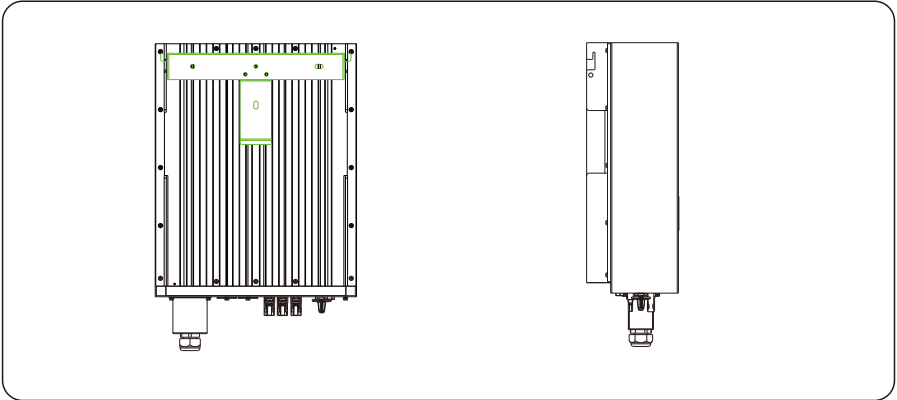

Figure 4.13 Hanging the inverter
Step 1 Firmly hang the inverter on the rear panel, as shown in Figure 4.13.